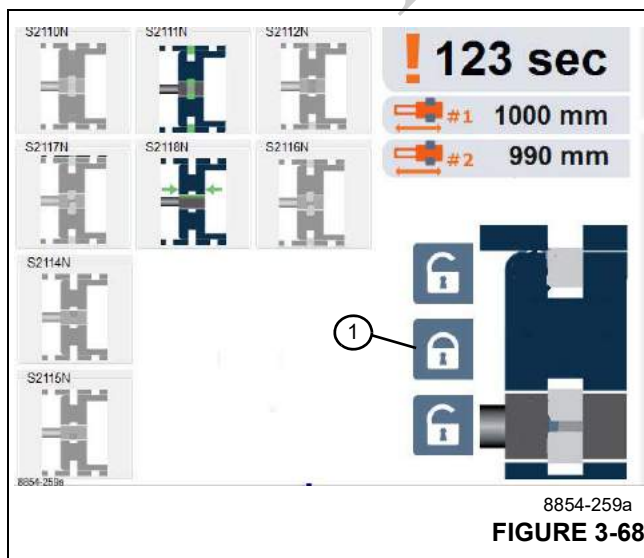

FIGURE 3-68
The telescopic section can be locked (if the actuator is able to release the section pins, and the telescoping boom section is actually aligned with a pinning hole). The screen should appear as shown in (Figure 3-68). In particular, S2111N should be ON.
If the telescopic section is locked (typically indicated by (Figure 3-68), you can now attempt to unlock the telescoping cylinder.
Under no circumstances should you select and press the lock symbol (1), (Figure 3-68) while the tele cylinder is in motion.
The telescoping cylinder is locked, if the actuator is able to release the cylinder pins, and the tele cylinder is actually aligned with a pinning location hole in the boom section. The screen should appear as shown in (Figure 3-68).